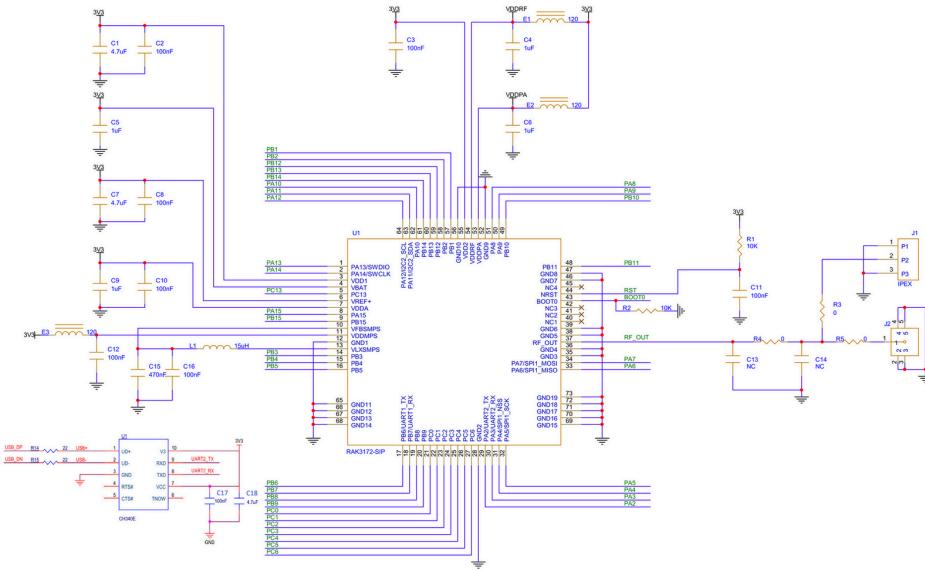

Figure 10: RAK3172-SiP with USB to Serial Schematic
1. After completing the steps on adding your RAK3172-SiP to the Arduino IDE, try to run a simple program to test your setup. You need to add a USB connection to the bare minimum schematic of the RAK3172-SiP module, as shown in **Figure 10**.